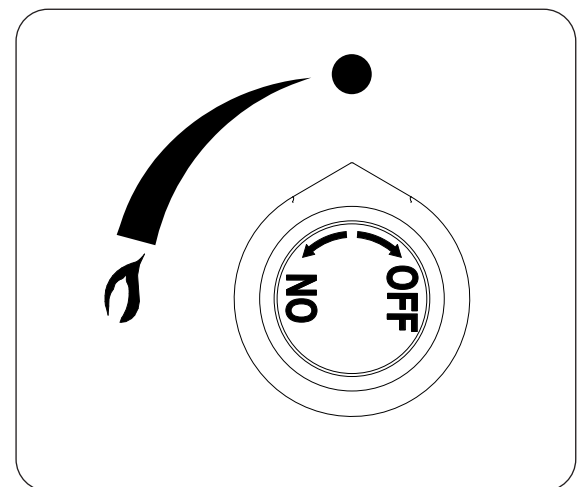

Fig. 27-2
4. **Once the flame is in position**, turn the gas control knob counter-clockwise to the **ON** position, depress, and hold for 15 seconds (see Fig. 27-2). Your burner should light within 5 seconds.
**To extinguish your gas burner**, turn the gas control knob clockwise to the **OFF** position (see Fig. 27-2). Be sure the control knob is turned fully off to avoid any gas leakage.